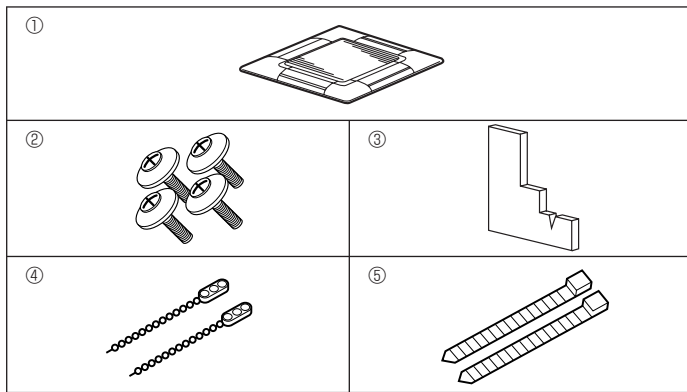

Fig. 7-1
7.1. Check the grille accessories (Fig. 7-1)